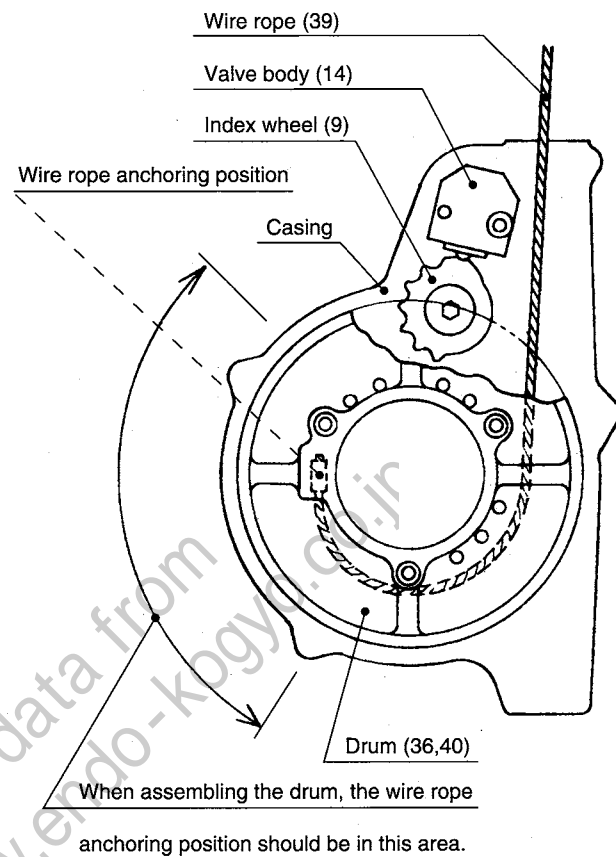

Fig.7
- ④ Install the drum into Casing (1) so that the wire rope anchoring position comes in the area shown in Fig. 7.